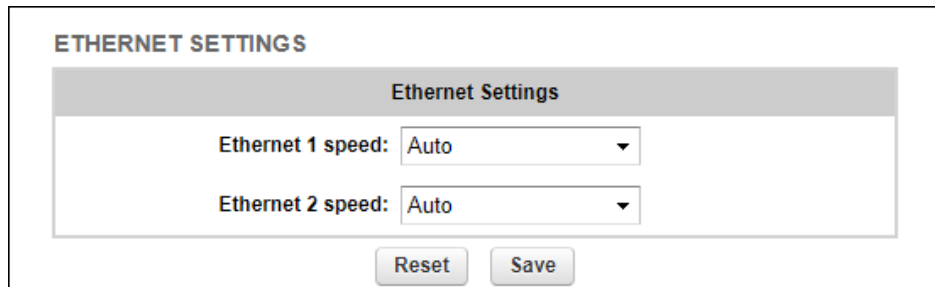

Figure 32. Configurator GUI (Ethernet settings window)
- The **Ethernet Settings** dialog will be shown (Figure 32 \(page 92\)).